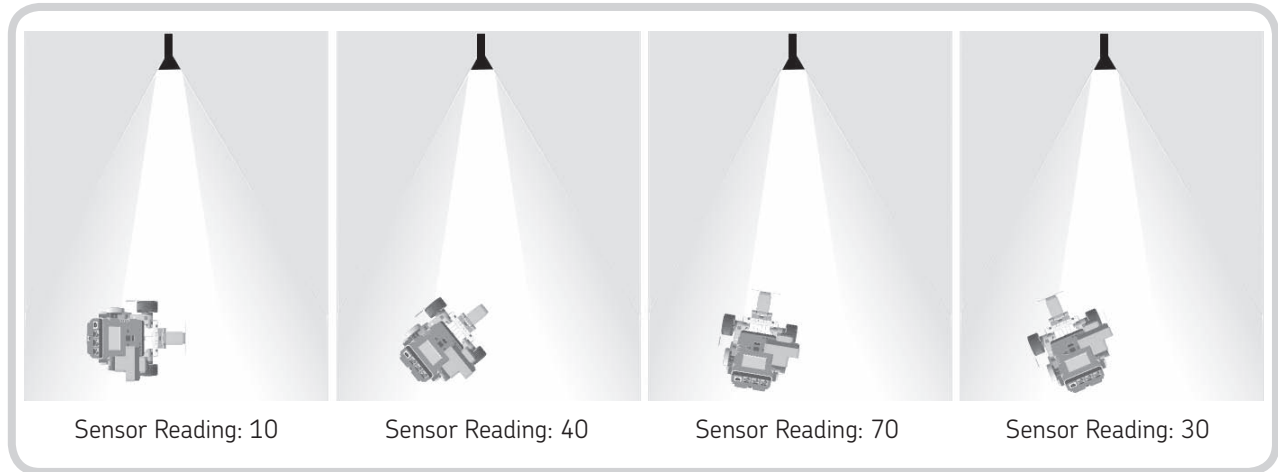
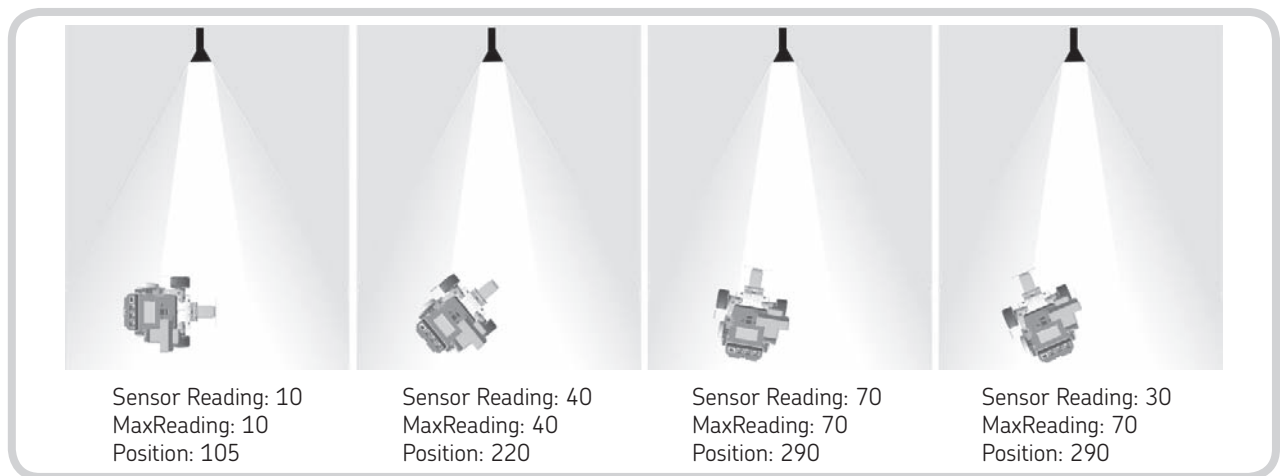

Figure 11-18: Sensor readings at four positions
Figure 11-20: MaxReading and Position variable values as the robot spins
Figure 11-18 shows how the sensor reading changes as the TriBot spins. The robot starts facing away from the light, so the reading is low (10). As the robot spins toward the flashlight, the sensor reading increases to 40, as shown in the second image. When the TriBot is pointing directly at the flashlight, the reading will be at its highest level (70 in this example). The sensor reading will then decrease as the TriBot spins past the flashlight, as shown in the final image.
As the TriBot spins, the program will compare the reading from the Color Sensor with the highest reading seen so far. If a higher reading is found, MaxReading is set to the new (higher) value, and Position is set to the B motor's position. Listing 11-2 shows the pseudocode for this section of the program. Figure 11-20 shows the variable values at the positions shown in Figure 11-18.